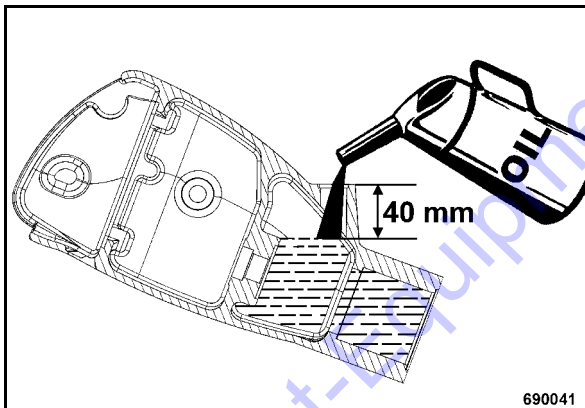

Fig. 79
- Fill in hydraulic oil to approx. 40 mm (1.6 in) below the edge of the filler opening (Fig. 79).